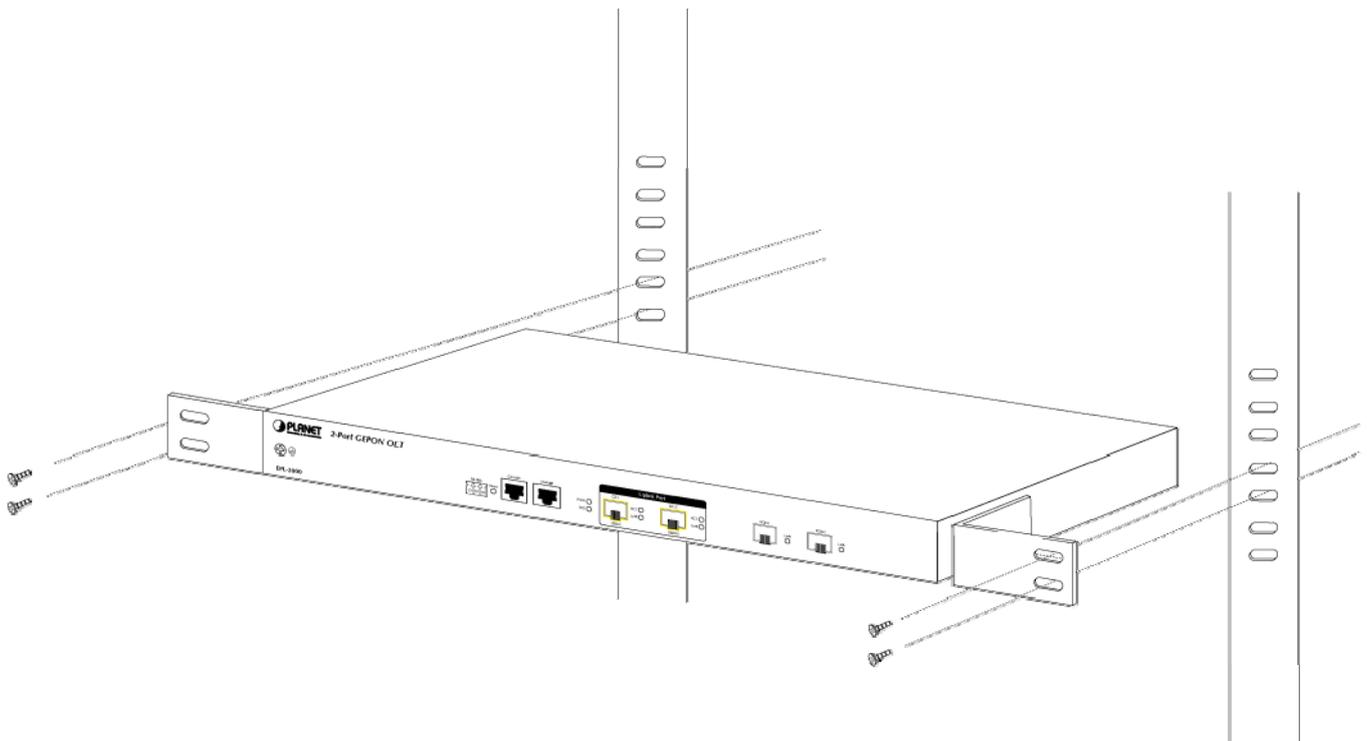

Figure 2-5 Mounting the GEAPON OLT on a Rack
Step 5: After the brackets are attached to the GEAPON OLT, use suitable screws to securely attach the brackets to the rack, as shown in Figure 2-5.